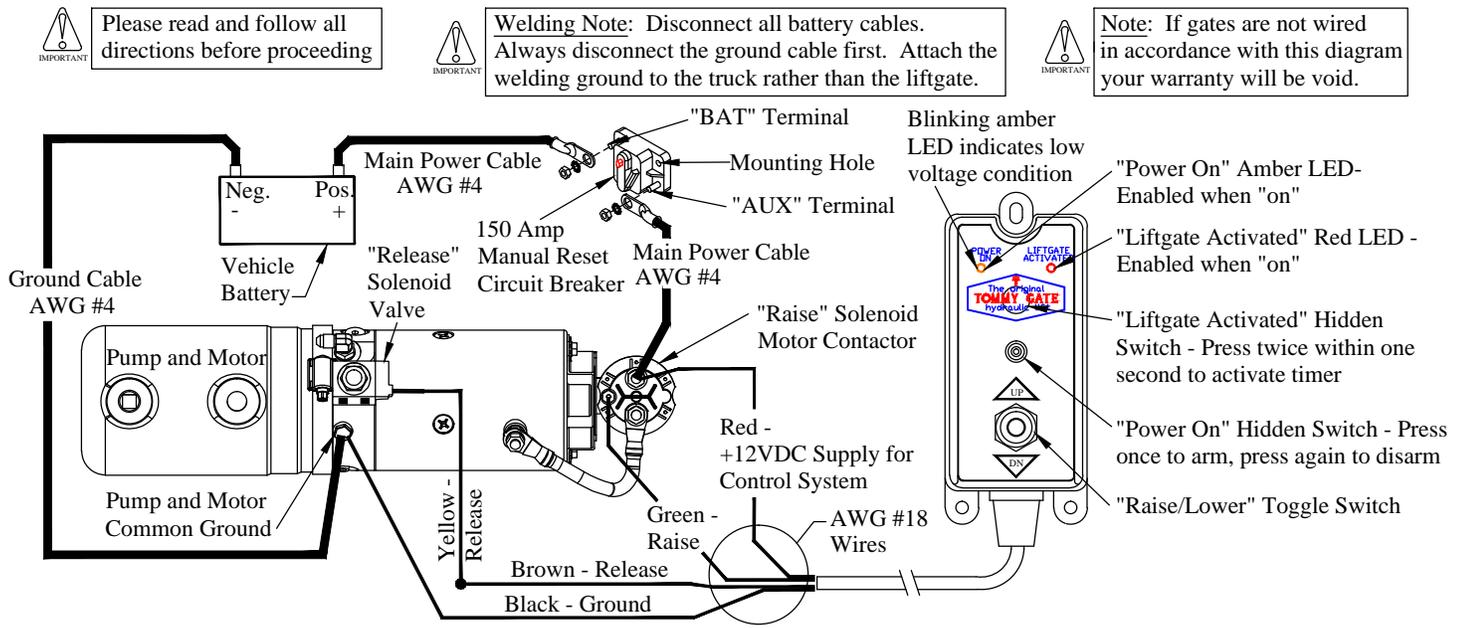

Figure 16: Wiring diagram.
3. **Push** the hidden "Power On" switch (Figure 16). The amber "Power On" LED will illuminate.
13. **Connect** the circuit breaker and battery as outlined in the *Tommy Gate Recommended Electrical Wiring Guidelines* and wiring diagram (Figure 16).